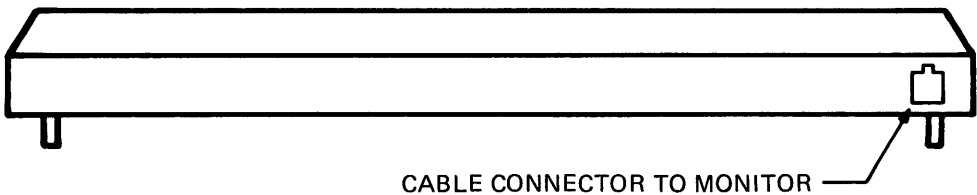

Figure 3-3 Model 6100 VDU Keyboard (Rear View)
- The first cable connects the keyboard to the monitor. It is a coiled, expandable cable that is connected between the rear of the keyboard and the rear of the monitor as shown in Figures 3-3 and 3-4.